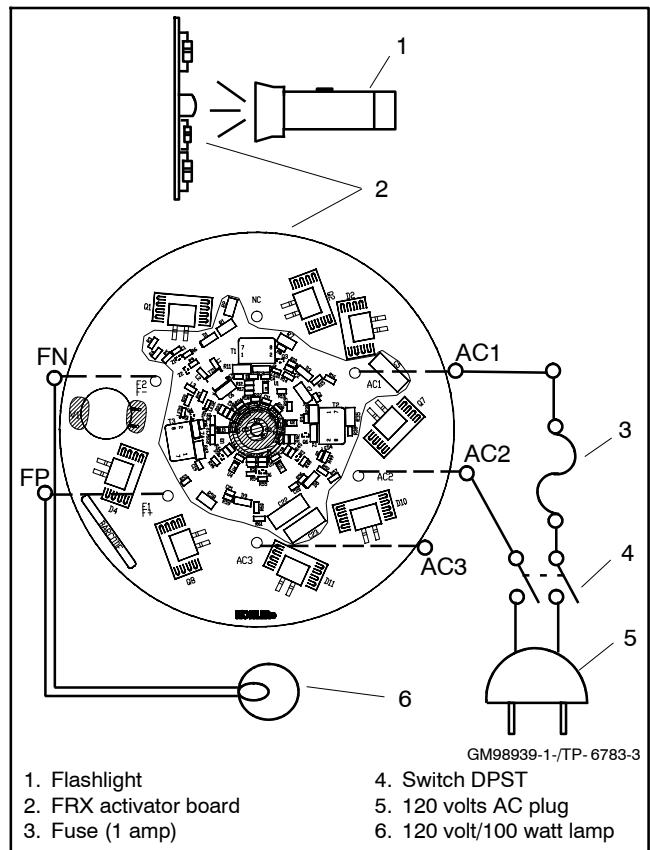

Figure 11-7 FRX Activator Board Test A
1. Connect components as illustrated in Figure 11-7, Test A.